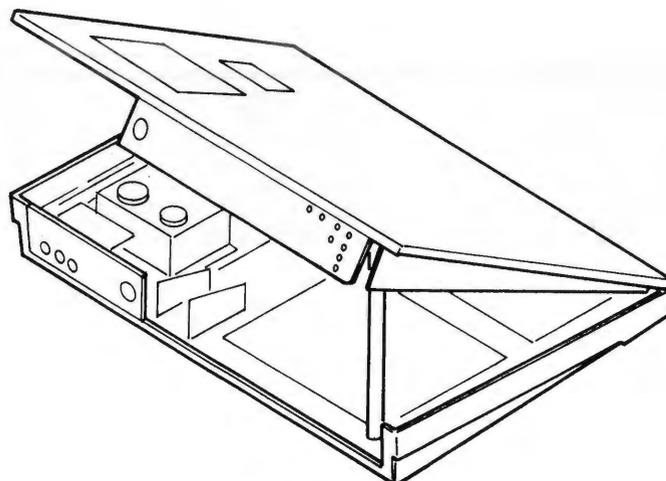

Fig. 2-4
5. After removing all the screws specified above, open the cabinet by lifting the rear side of the cabinet. When adjustments are required on the amplifier etc., lift the rear side of the cabinet and place approx. 30cm-long prop between the bottom and rear side of the cabinet. (Refer to Figure 2-4)
アンプの調整等のときは上ケースを持ち上げた後、ボトム・ケースと上ケースの後方を 30cm ぐらいのつかえ棒で支えてください。(図2-4 参照)